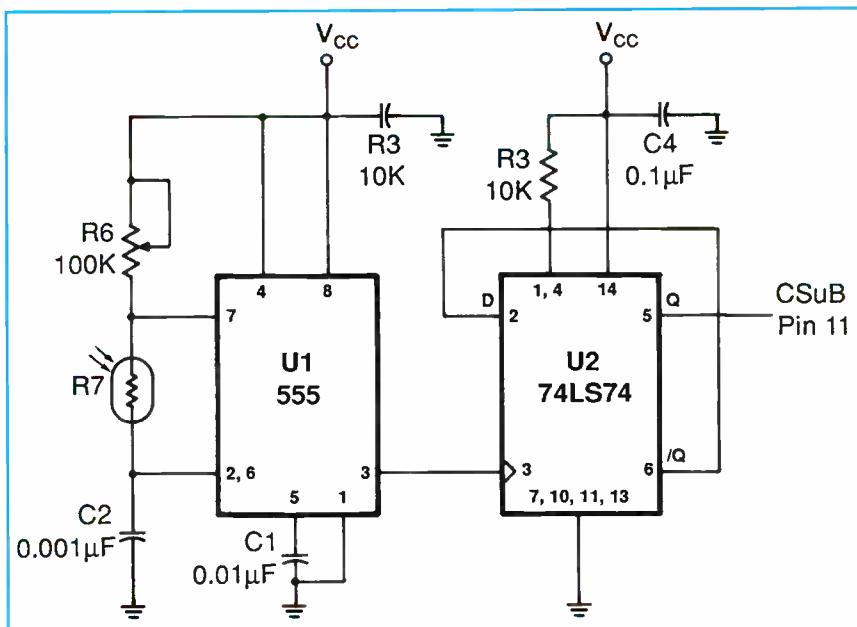

Fig. 3. Input circuitry for fuzzy-logic interface.
• **Light-to-Frequency Converter.** The 555 timer in the Fig. 3 circuit performs the conversion from light to frequency. The resistance of photo-sensor $R7$ is inversely proportional to the intensity of the light striking it. As the light increases in brightness, the output frequency of 555 timer $U1$ also increases. Unfortunately, the sensor's resistance not only affects the frequency of the output, but it also varies its duty cycle. The PC loses track of the signal when it can no longer read at least one high and one low per cycle. For maximum range, edge-triggered flip-flop $U2$ reduces the original frequency by half and achieves a 50% duty cycle.